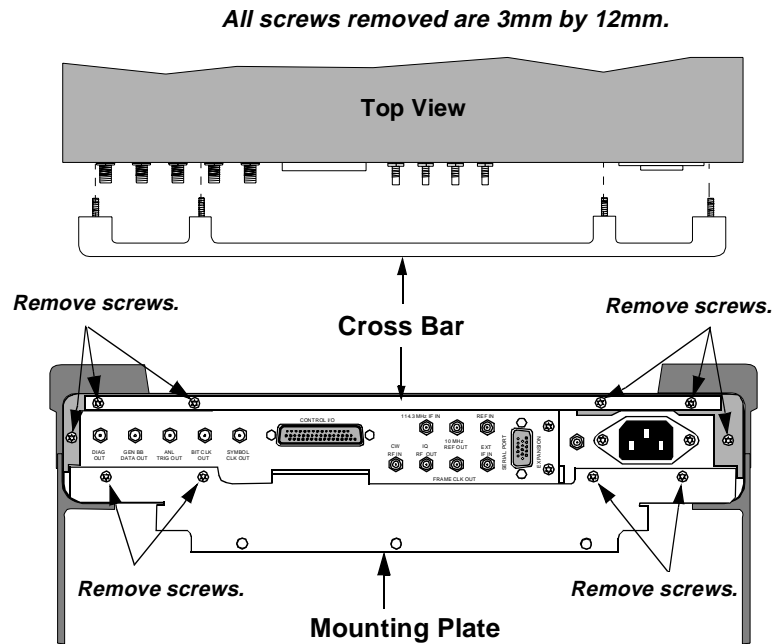

Figure 16 Removing the Cross Bar and Mounting Plate
3. Remove the cross bar and mounting plate from the Cellular Adapter by removing the screws shown in **figure 16**.